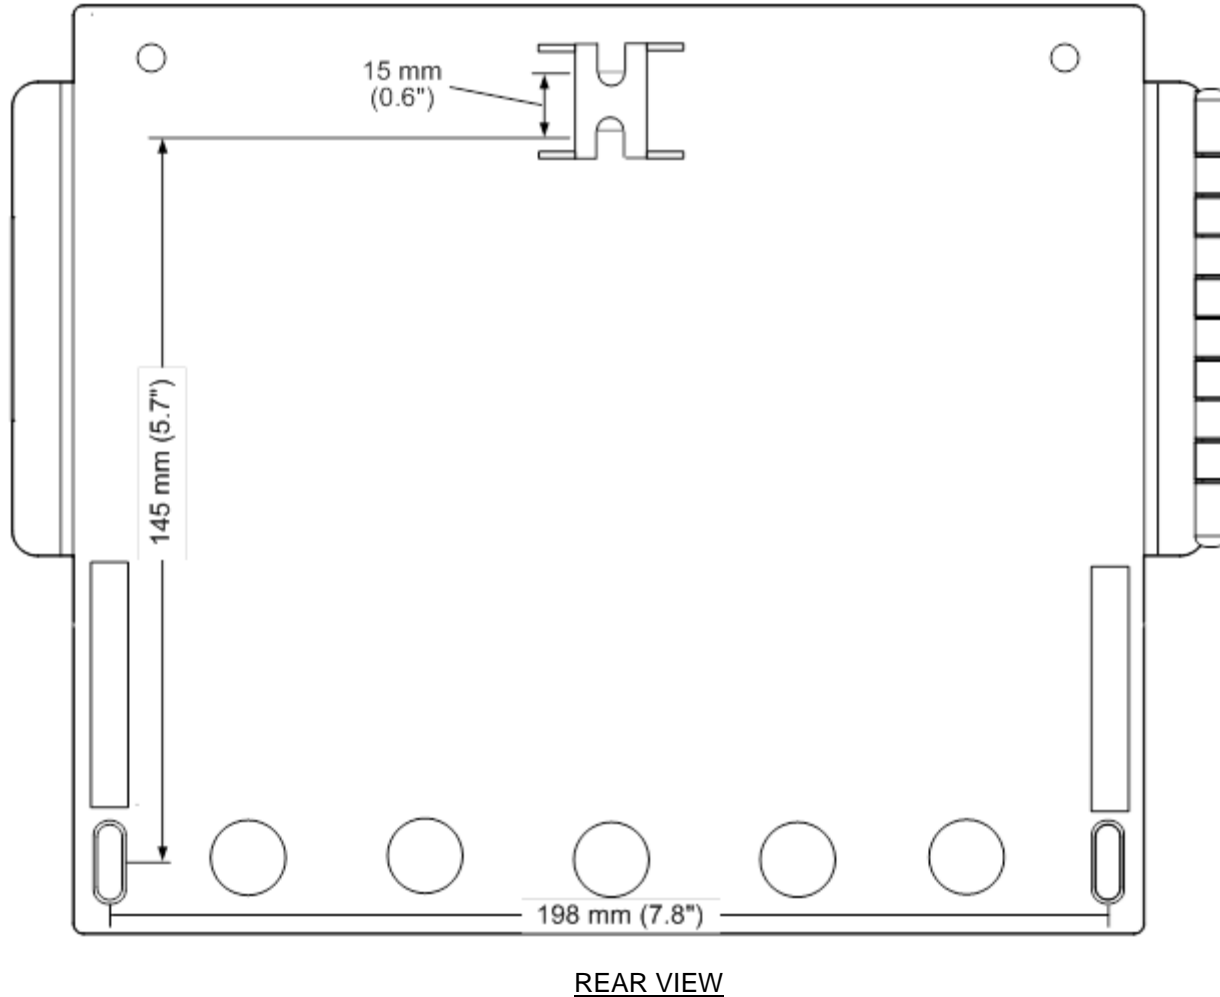

Figure 2-1: ACS Mounting Provisions
AERCO recommends that the ACS be wall-mounted using a sheet of plywood or other suitable material. For easy viewing, the ACS controls and display should be at eye level. Mounting is accomplished using three screws (not provided). The spacing for the three screws are indicated on the rear of the ACS in millimeters. Figure 2-1 shows the rear of the panel enclosure and also indicates the required spacing for the three mounting screws in inches. Proceed as shown below, to mount the unit:
1. First install a screw on the mounting surface at the top center location shown in Figure 2-1. Leave a space of approximately 1/8 inch between the mounting surface and the head of the screw.